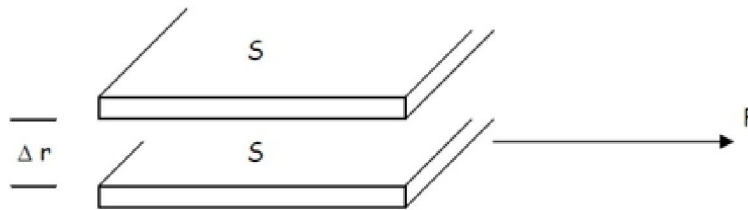

Figure 1
- ❑ Let us consider two parallel planar layers with a surface area  $S$  of a very small (molecular order) distance apart in a real fluid (Figure 1).